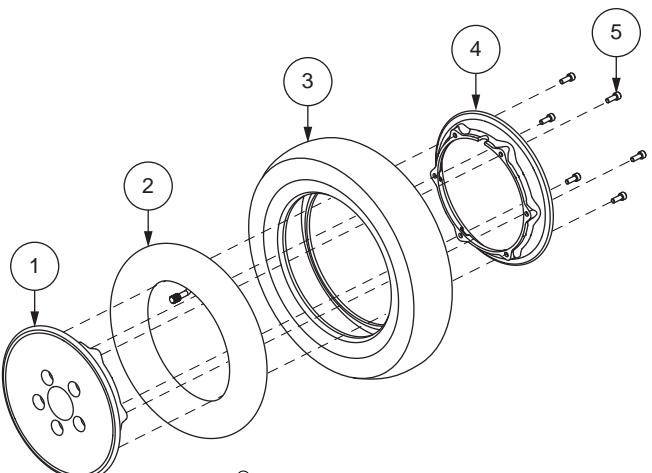

Figure 23. Pneumatic Drive Wheel Disassembly/Assembly
6. Remove the screws and separate the rim halves. See figure 23.